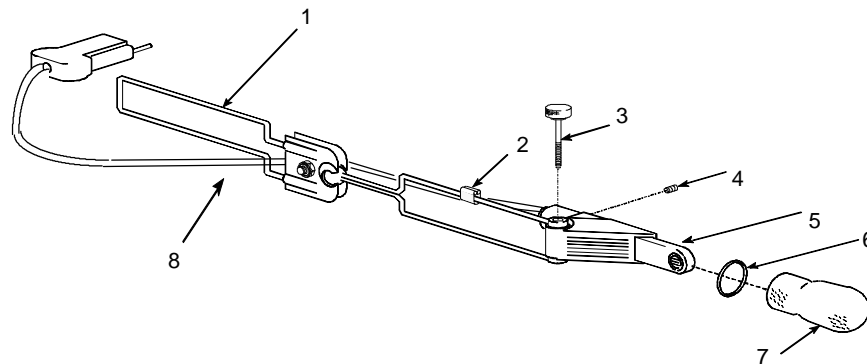
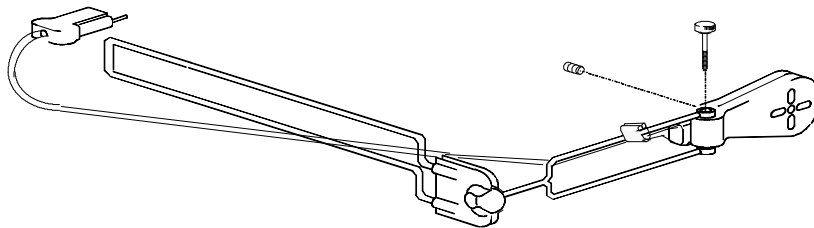

Figure 3-23. M-172 Microphone and Boom Assembly
Figure 3-24. M-173 Microphone and Boom Assembly
3.9.5. Windscreen and O-Ring Removal and Replacement (CAPS Type II) (Fig. 3-23)
3.9.6 Microphone Removal and Replacement (ACAPS Type B and CAPS Type II) (Fig. 3-23 and FIG. 3-24)
The removal and replacement procedures for both the microphone and cable assemblies shown above, (M-172, Fig. 3-23 and M-173 Fig. 3-24) are identical, even though the microphones are different, the attachment points and hardware are the same. The Figure and Item numbers used are referenced from Fig. 3-23.
3.9.7 Microphone Cable Assembly Removal and Replacement (ACAPS TYPE B and CAPS TYPE II) (FIG. 3-23 and Fig. 3-24)